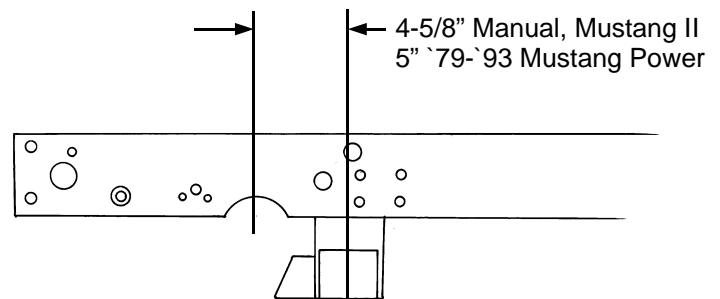

Figure 6
8. The C-notch for the rack is the last part to be done. Measure forward from the centerline 4-5/8" for manual rack and `78-`78 Mustang II power rack, or 5" for `79-`93 Mustang power rack, and make a mark . See Figure 6. Use the C-notch pieces to scribe a radius to cut. Trim out the material marked, leaving about 1/8" to work with, fitting the C-notch pieces and rack in place as you go. You will also need to trim a portion of the rear stock crossmember for rack clearance. When the rack fits in place, remove the rack and weld the C-notch pieces in place, then grind smooth.